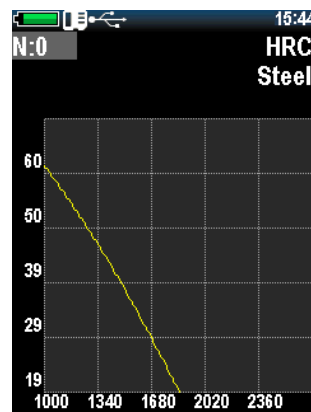

Figure 2.41 - Deleting a user calibration
10. To delete a custom calibration, go to the custom calibration mode and set the value to “0” for the N parameter (Figure 2.41).